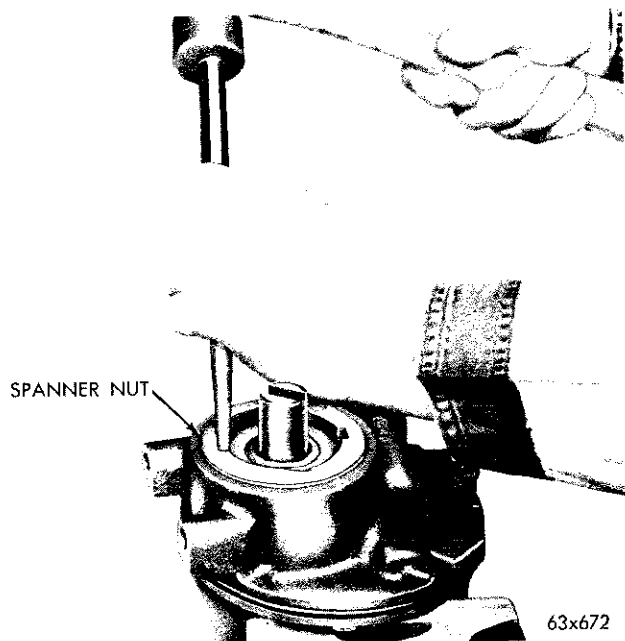

Fig. 12—Removing Spanner Nut
(5) Use a 1/4 inch drift to loosen and remove the spanner nut (Fig. 12).